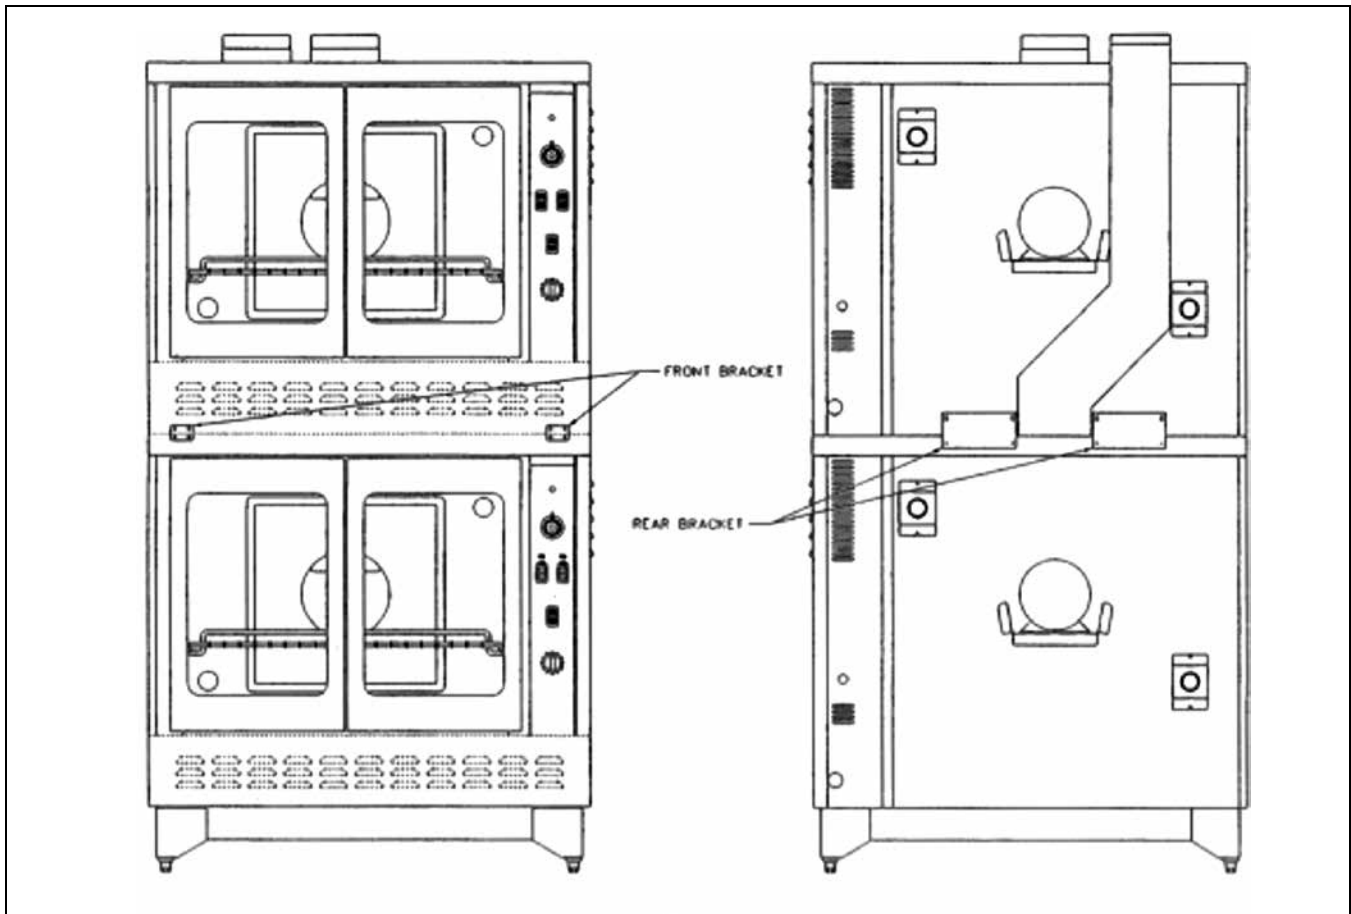

Figure 2
3. Fasten the oven together at the rear and front as shown in Figure 2. (Remove the top ovens kick plate to access the front bolts.)
4. Assemble bottom flue extension as shown in Figure 2.